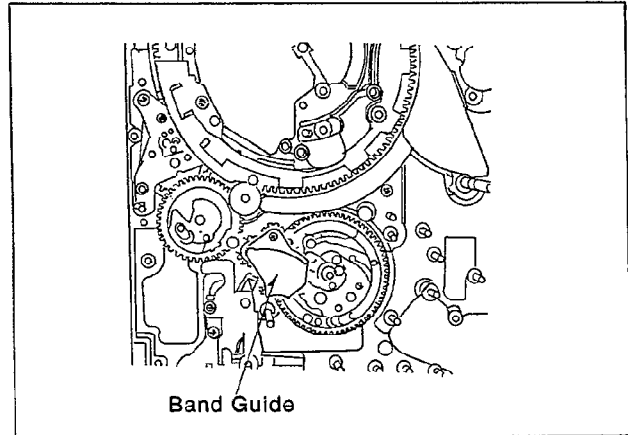

Fig. M12
- (1). Install the Band Guide and then insert the Cut Washer as shown in Fig.M12